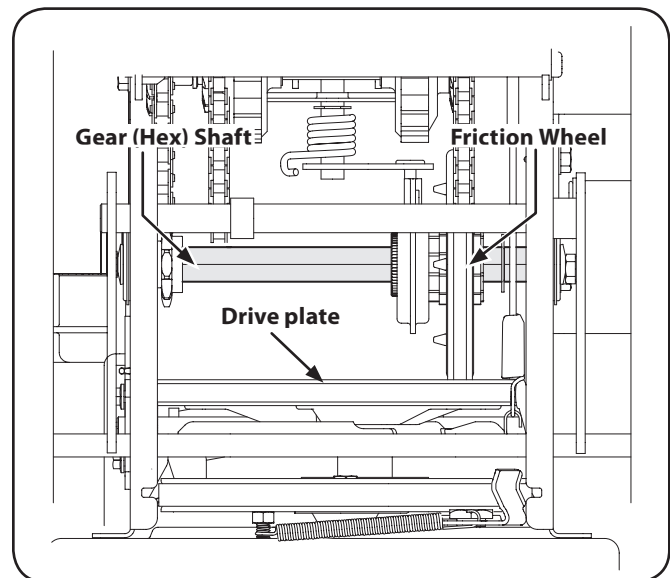

Figure 6-3
4. Apply a light coating of engine oil (or 3-in-1 oil) to the hex shaft. See Figure 6-3.